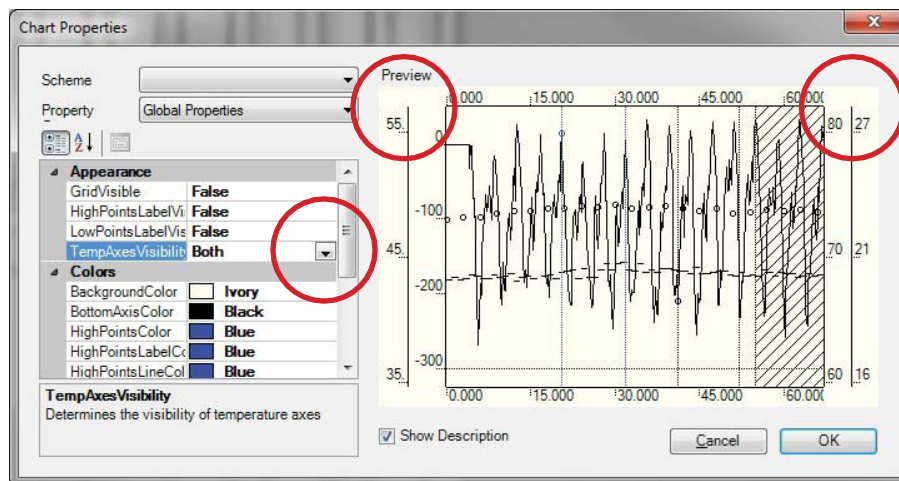

Figure 20: Chart Properties Window
2. Select **Appearance Options** (see Figure 20)
The Appearance Options, Chart Properties window (Figure 20) establishes what is to be displayed, i.e., **Celsius (°C)**, **Fahrenheit (°F)** or both. Checking, or un-checking the **Show** boxes (Figure 20) determines whether or not the selected items are displayed in the chart.